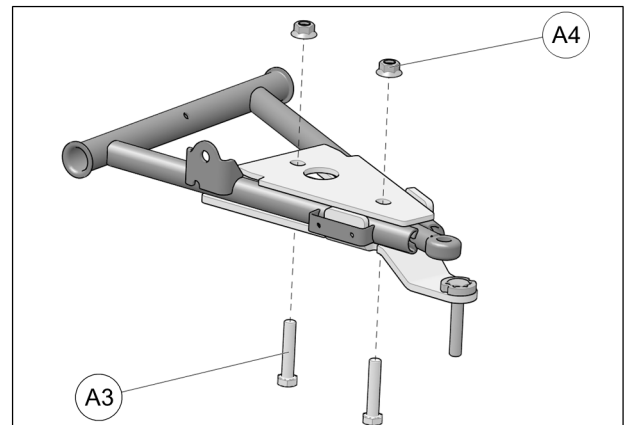

Fig. 17
6. Insert the M10x50mm bolts (A3) through the bottom and secure the two parts together with the nuts (A4) provided. Tighten assembly to 50 N•m [37 lb•ft] of torque. See Fig. 17